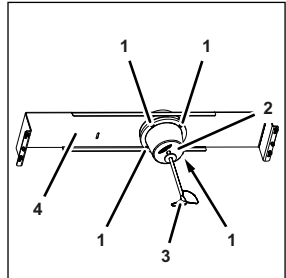

Figure 46
5. Remove the stirrer blade (Figure 46/3) from the stirrer motor (Figure 46/2).
6. Remove the fastening bolt (Figure 46/1) from the stirrer motor (Figure 46/2).
7. Attach the new stirrer motor (Figure 46/2) to the stirrer motor mount (Figure 46/3) using the fastening bolts (Figure 46/1).
8. Apply Loctite to the stirrer blade (Figure 46/3).
9. Attach the stirrer blade (Figure 46/3) to the new stirrer motor (Figure 46/2).
10. Position the new stirrer motor mount (Figure 46/3) within the unit.
11. Attach the stirrer motor mount (Figure 46/3) using the fastening bolts (Figure 46/1).